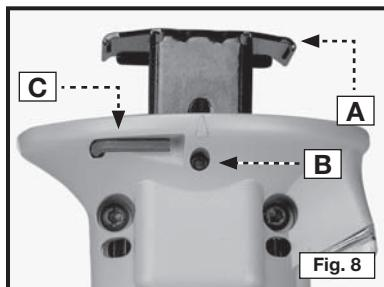

Fig. 8
The Cutout Tool is equipped with a shoe (A) Fig. 8 that you can adjust to provide the desired amount of bit exposure. Use the supplied hex wrench (C) Fig. 8 (the same wrench used to tighten bit retaining screws) to loosen the screw (B) Fig. 8, counter-clockwise. Move the shoe to the desired position and tighten the screw firmly.